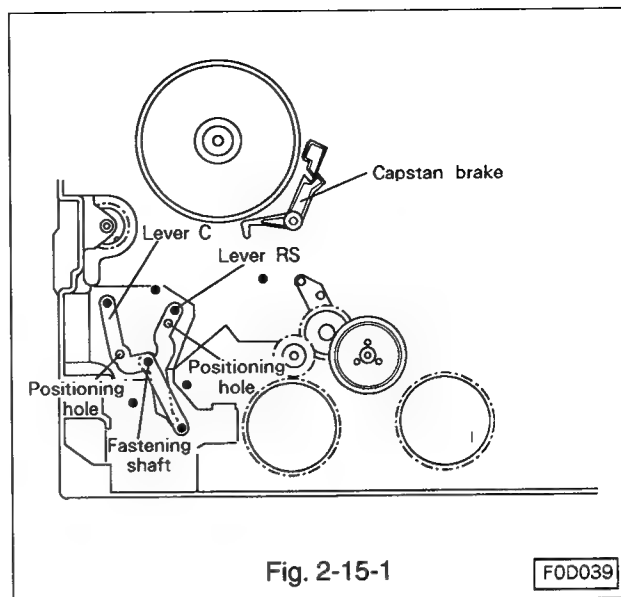

Fig. 2-15-1
2-15 Positioning and Installation Sequence of Parts Around Main Cam 1 (Bottom Side of Deck) (Refer to Fig. 2-15-1~2-15-6.)
- A. Line the positioning hole in lever RS to that of the main plate, and assemble lever RS to the shaft. (Refer to Fig. 2-15-1.)